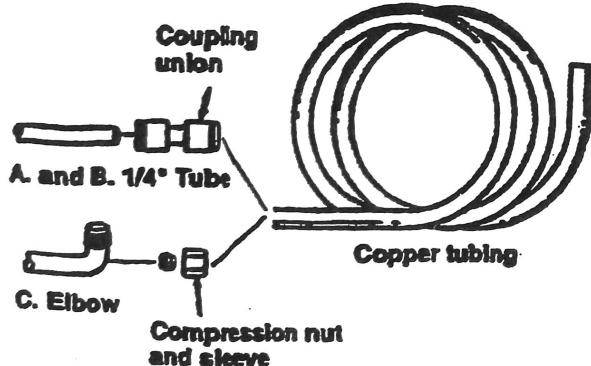

Figure 1
- a. 1/4" male or female flare connection: Cut off flared portion of copper tubing attached to water valve and remove flare connection. Make sure tubing is round and cut off square. Connect tubing from water valve to copper tubing furnished with the 1/4" x 1/4" coupling union included in this kit. Be sure tube is completely inserted in union. See figure 1.
- b. 1/4" copper tube connection: Make sure tubing is round and cut off square. Use the 1/4" x 1/4" coupling union (furnished) to connect the water valve tube to the copper tubing in this kit. Be sure tube is completely inserted in union. See figure 1.
- c. Threaded elbow connection: First slide compression nut on copper tubing, then slip compression sleeve on tubing. Insert tubing into elbow making sure tubing is bottomed in valve. Tighten compression nut on valve - take care not to overtighten. See figure 1.